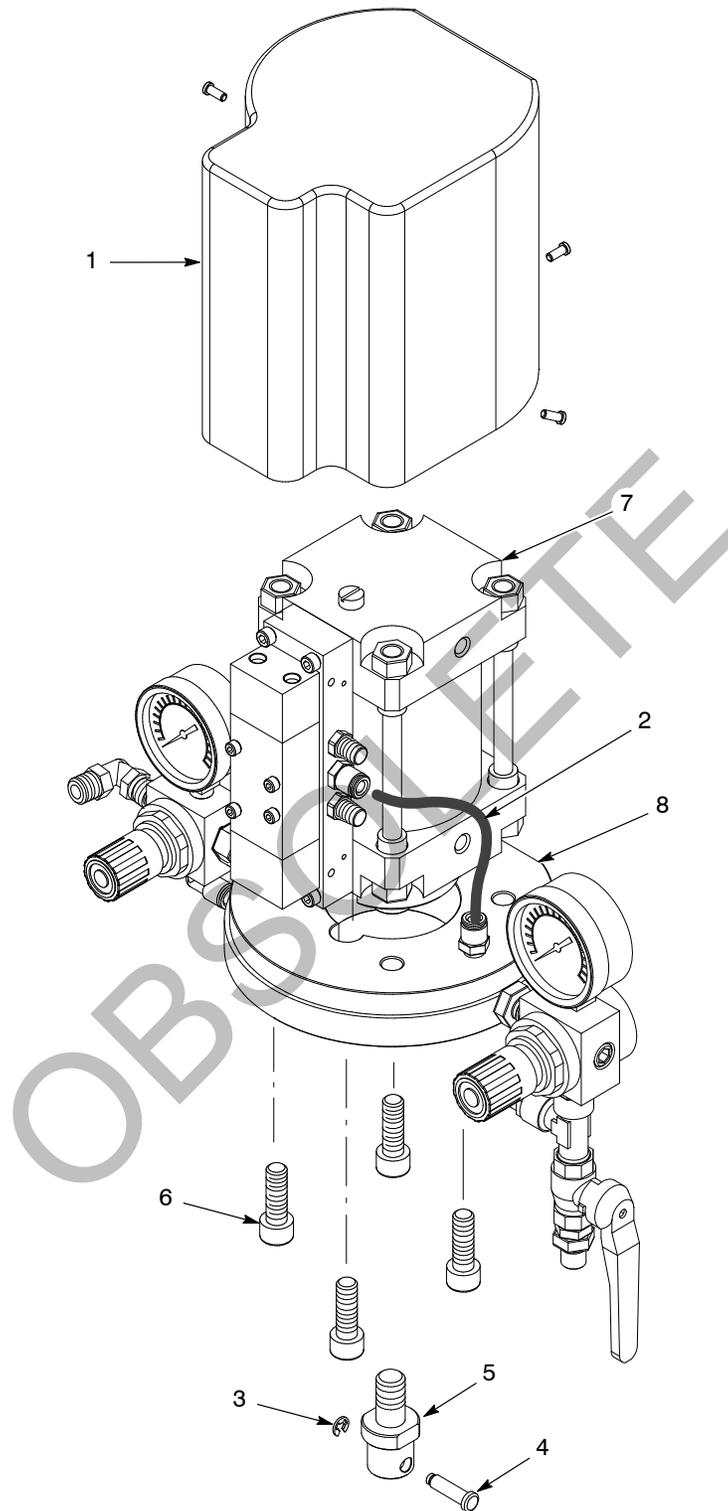
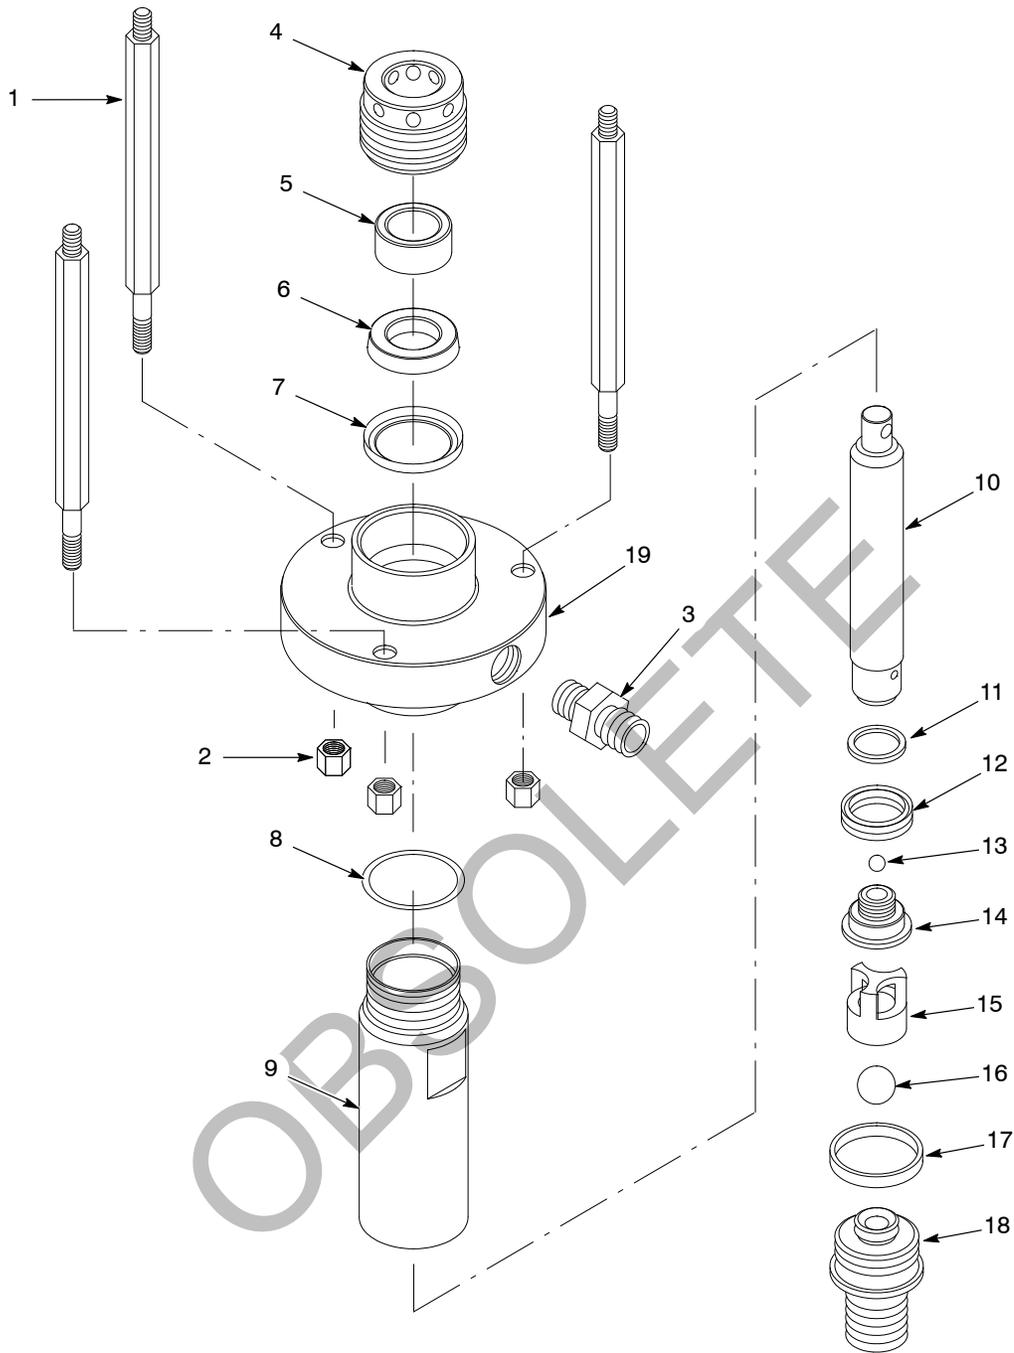

Figure 10 Air Motor Replacement
Figure 11 Hydraulic Section Repair
2. See Figure 10. Remove the blue plastic safety guard (1).
3. Disconnect the air hose (2) from the air valve quick-disconnect fitting.
4. Disconnect the hydraulic piston from the air motor by removing the retaining ring (3) and coupling pin (4).
5. See Figure 11. Unscrew the three lock nuts from the bottom ends of the tension rods and remove the hydraulic section from the pump.
6. See Figure 10. Unscrew the coupling (5) from the motor piston.
7. Remove the four M10 screws (6) from the bottom of the air motor flange.
8. Remove the air motor (7) from the flange (8).
1. See Figure 10. Disconnect the hydraulic piston from the air motor by removing the retaining ring (3) and coupling pin (4).
2. See Figure 11. Unscrew the three lock nuts (2) from the bottom of the tension rods (1). Remove the hydraulic section from the tension rods.
3. Unscrew the upper packing holding nut (4) from the flange (19) and slide it off the piston (10).
4. Remove the guide bushing (5) and lip seal (6) from the piston.
5. Remove the seal (7) from the flange.
3. Remove the upper packing holding nut (4) from the flange (19).
4. Unscrew the pump sleeve (9) from the flange and remove the piston (10) from the sleeve.
5. Insert a 4-mm pin in the hole at the top of the piston to hold the piston from turning. Use a 6-mm hex wrench to unscrew the pressure valve body (14) from the piston. Remove the ball (13), washer (11), and lip seal (12) from the valve.
6. Install new valve components and reassemble the hydraulic section in reverse order. Replace the sleeve O-ring (8) before installing the sleeve.
1. See Figure 11. Place a 32-mm open-ended or adjustable wrench on the sleeve (9) flats to prevent it from turning.
2. Unscrew the siphon valve (18) from the sleeve with a 20-mm open-ended or adjustable wrench.